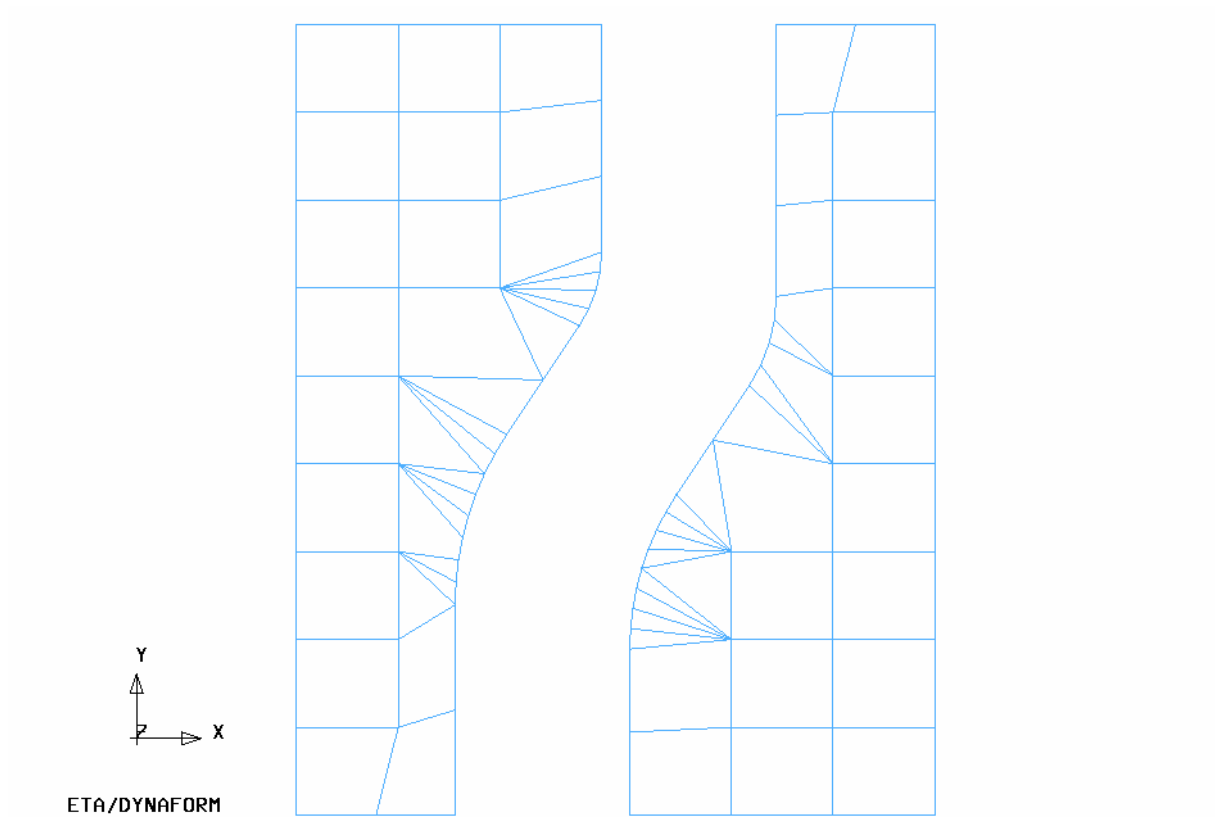

Figure 47: Illustration of binder surface
- Hit the **Top View** icon in the Icon bar. Then, use the **Part Turn On/Off** function to display the **LOWRING** illustrated in Figure 47. If display on your screen differs, repeat the above steps.